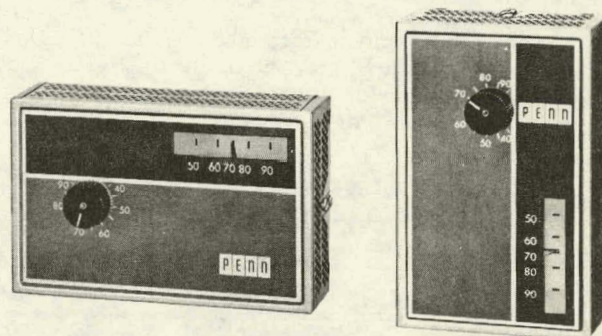

Fig. 1 — Series T26 thermostat with horizontal faceplate (left) or vertical faceplate (right).
These thermostats are extremely versatile. Using different field-installable faceplates, combinations of (1) vertical/horizontal mounting, (2) knob, key or concealed adjustment and (3) with or without thermometer indication are possible. These thermostats have metal locking covers with Phillips-head screws to discourage unauthorized tampering. The standard models are supplied with a faceplate installed for vertical mounting with knob adjustment and thermometer. A field installable faceplate for horizontal mounting is also included on wholesaler models. See Figs. 1 and 6. Standard models are SPDT for heating, cooling or heating and cooling applications.